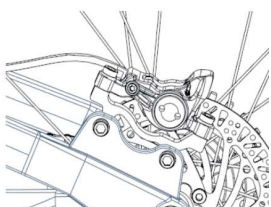

Figure 2-3 Disc Brake Set Orientation
- ① Install the appropriate front or rear brake adapter onto the mounting points on the frame or fork (see Figure 2-3).
- ② Loosen the disc brake caliper fixing screws slightly to allow adjustment. Mount the disc brake caliper together with the adapter onto the frame or fork.